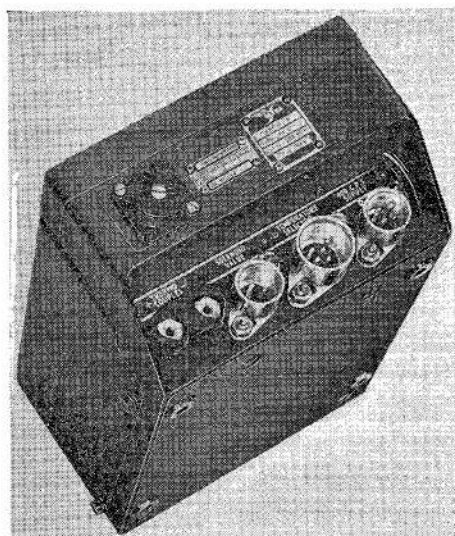

Fig 1 Amplifier unit, Ultra, Type A133/1
1. The amplifier (*fig. 1*), is designed to limit jet-pipe temperature at any selected value. Provision is made for variation of the temperature datum point by means of a selector, which may be manually operated, or mechanically coupled to the engine throttle, so that any temperature within the engine flight range may be selected.